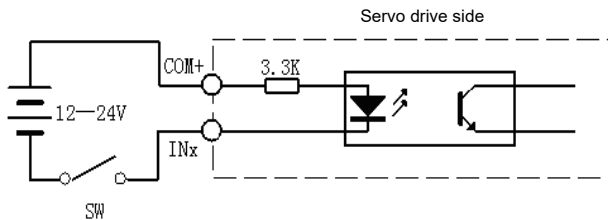

Figure 4-9 Digital input port
Synmot servo drives use the intelligent programmable digital input ports. Each digital input (DI) port is able to be configured over 20 functions. The user can use 6 parameters, Pr-80 ~ 85, to respectively set up the functions of 6 digital input ports. The specific input circuit is as shown in below Figure 4-9.